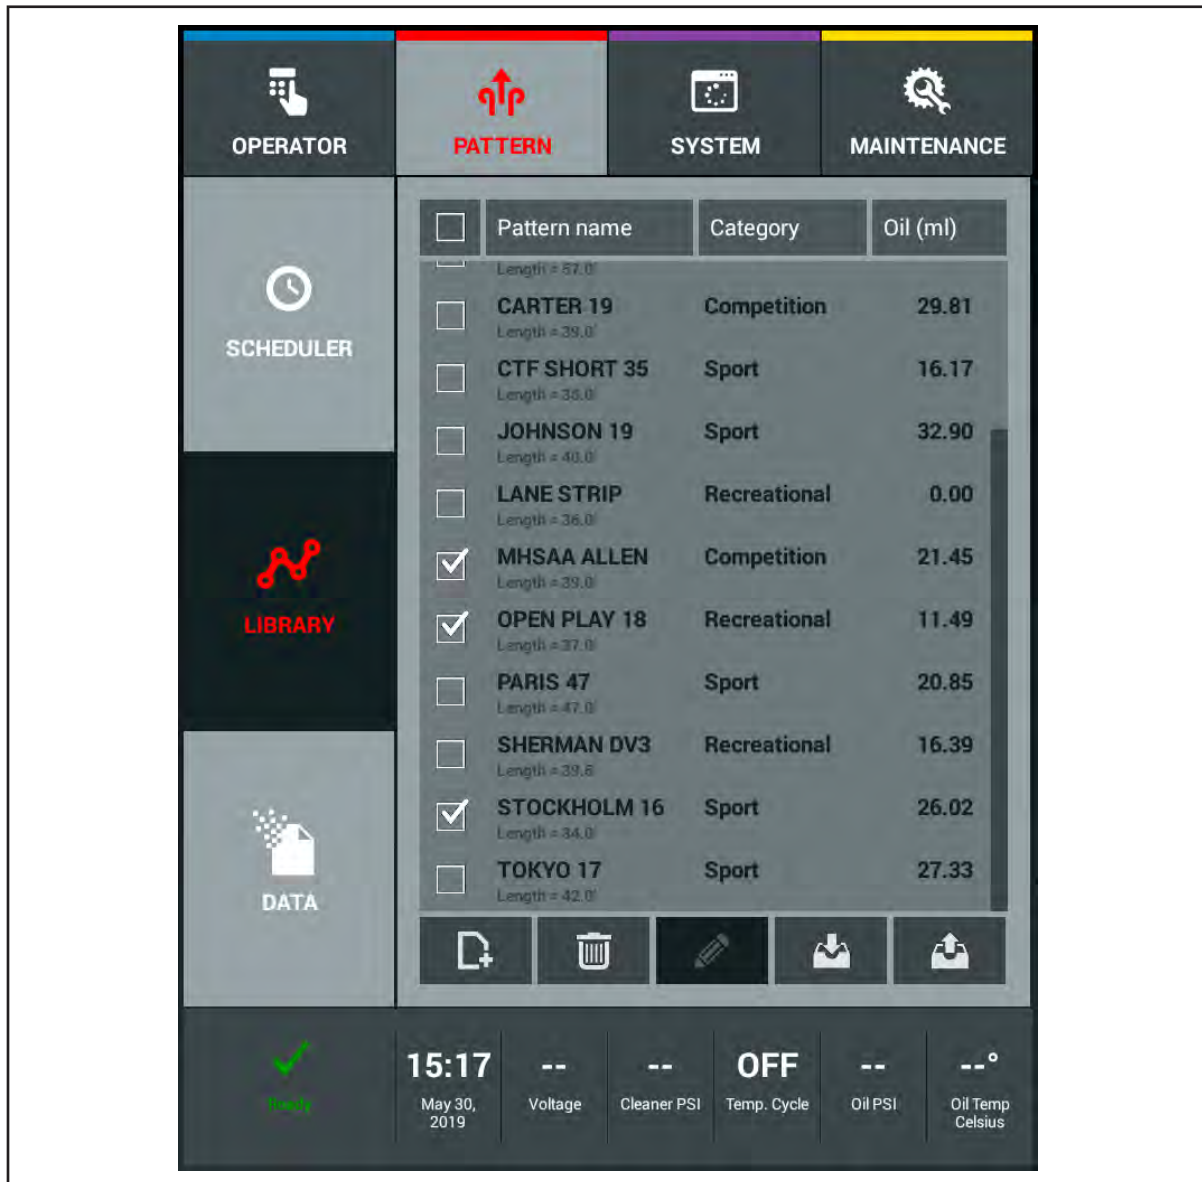

Figure 8-9. Selecting Patterns For Brunswick Cloud Export
2. Select the patterns you wish to export to your Private Brunswick Cloud account by checking the boxes to the left of the pattern name. Refer to *Figure 8-9*.